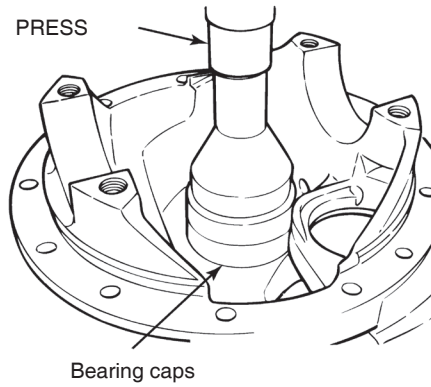

Figure 5.7
- E. Place a sleeve or a installation tool into the caps and press the caps into the bore until the bottom of the cap touches the shims. If a press is not available, use a sleeve, a brass drift or a installation tool and a hammer to install the cap. Figure 5.7.